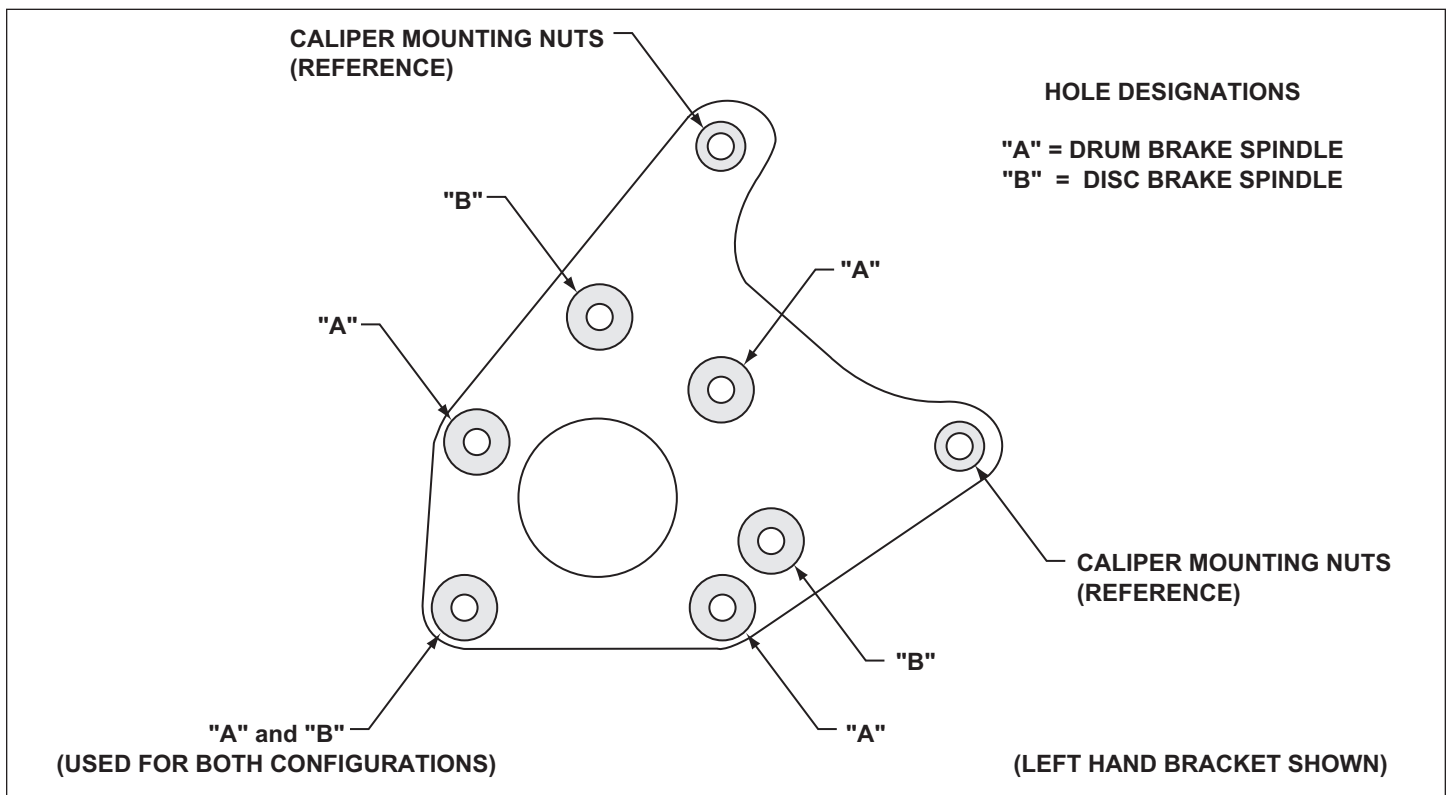
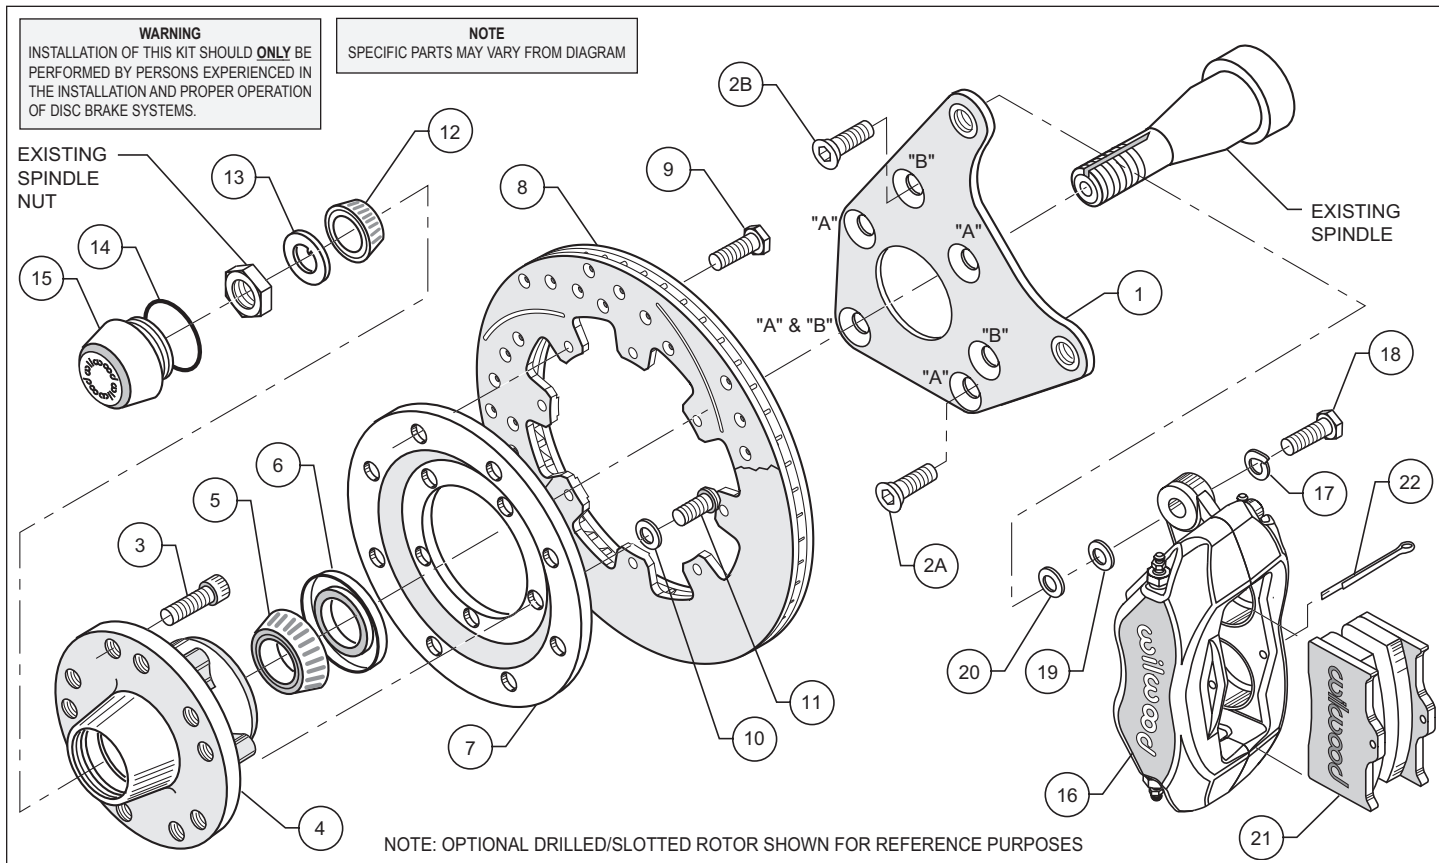
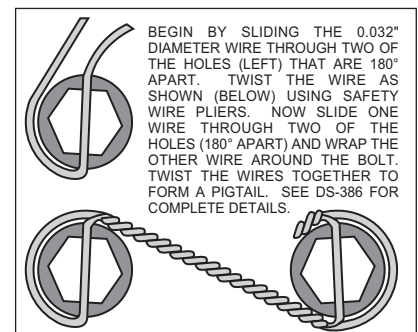

Figure 1. Wilwood Caliper Mounting Bracket
Figure 2. Typical Installation Configuration
Figure 4. Safety Wire Diagram
This kit has been designed for use with both the disc brake or the drum brake configuration of vehicle. The only difference is in how the Wilwood caliper mounting bracket is installed. The same bracket is used for both configurations; the disc brake version utilizes three mounting holes while the drum brake application uses four mounting holes (see Figure 1). For your convenience we have supplied bolt kits for both applications (see parts list and Figure 2 as necessary, item(s) 2A and 2B). Use the bolt kit that is applicable to your vehicle and disregard the other one.
These modifications should be performed by a qualified machinist and completed before assembly of the Wilwood disc brake kit begins. Using the caliper mounting bracket as a template (refer to figure 1 as necessary), locate and verify the three original stock holes on the steering arm that need to be modified. Drill a .332 diameter hole through all three holes, then tap 3/8-24 UNF (fine thread). Countersink the holes to .438 x 90°.
- As mentioned before, this kit uses the same mounting bracket (1) for both the drum and disc brake spindle. The drum version utilizes four mounting bolts (designated with a "A"), while the disc only requires three (designated with a "B"). Refer to figure 1 and figure 2 as required for the basic installation position of the bracket and the "A" and "B" reference designations (these designations are not physically marked on the bracket, they are referenced on the drawings for your convenience) and align using the three or four holes (as applicable) to the face plate of the steering arm. Install bolts (2A or 2B) through caliper mounting bracket (1) into steering arm, finger tighten only. After you are positive of the bracket (1) alignment, remove the mounting bolts (2A or 2B) one at a time and Apply red *Loctite*® 271 to bolt threads (2A or 2B), then reinstall. Torque bolts 2A or 2B to 30 ft-lb. **NOTE:** Be sure the heads of the bracket (1) insert nuts are facing outward toward the wheel.
- Install wheel studs (3) into the hub (4). Torque to 77 ft-lb. **NOTE:** There are two (2) five lug patterns in the hub (5 x 4.50 and 5 x 4.75). Make sure of the correct hole pattern for the correct wheel application before installing studs into hub.
- Pack the large inner bearing cone (5) with high temperature disc brake bearing grease (available from your local auto parts store) and install into the backside of the hub (4).
- Install the grease seal (6) by pressing into the backside of the hub (4).
- Attach rotor adapter plate (7) to rotor (8) using bolts (9). Torque bolts (9) to 180 in-lb. Safety wire bolts (9) using standard 0.032 inch diameter stainless steel safety wire as shown in Figure 4. Please refer to Wilwood's data sheet DS-386 (available at www.wilwood.org/ds386.pdf) for complete safety wire installation instructions. **NOTE:** Dished side of adapter plate (7) should face hub (4). The machined tab side of the iron rotor (8) should face the adapter plate (7).
- Mount the adapter/rotor assembly (7 and 8) to the hub (4) using lock washers (10) and bolts (11). Torque bolts (11) to 22 ft-lb. Safety wire bolts (11).
- Pack the small outer bearing cone (12) with high temperature disc brake bearing grease and install into front of hub (4). Slide the hub/rotor assembly (4 and 8) with outer bearing cone (12) onto the spindle. Secure using spindle washer (13), stock adjusting nut and nut locking device. Adjust bearings per Original Equipment Manufacturer (OEM) specifications.
- Install the o-ring (14) and then the dust cap (15) onto the hub (4). Friction created by the o-ring (14) on the dust cap (15) keeps it from unscrewing.